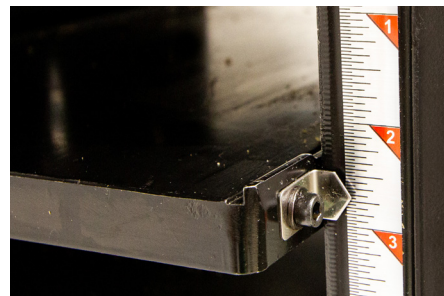

Figure 28: Planer's thickness scale.
**Thickness Scale:** The thickness scale (Figure 28) positioned on the right-hand side panel at the front of the machine serves as a general guide to monitor workpiece thickness post-planing. However, it should be emphasized that this scale is intended for approximate measurements, not precise tolerances. It is important to note that a small degree of backlash may be present when reversing height directions, with the first full turn of the crank after a directional change resulting in slightly less than  $\frac{1}{8}$ ". Yet, with consistent rotation in the same direction during operation, backlash ceases to be a concern.